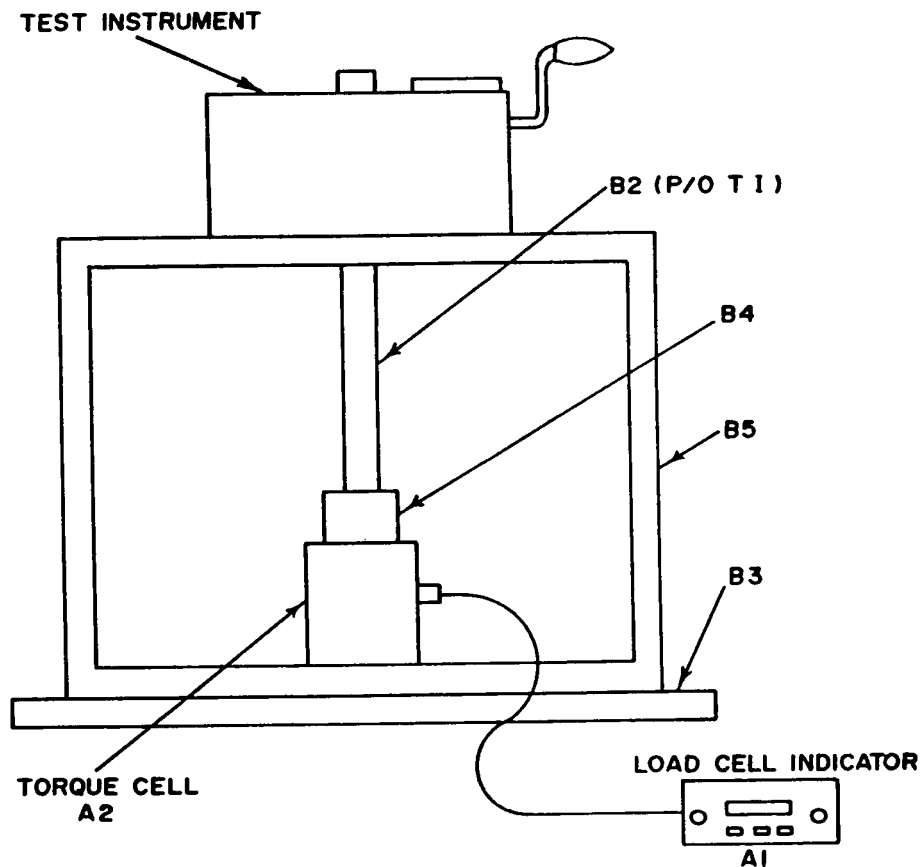

Figure 1. Torque - equipment setup.
- d. Assemble equipment as shown in figure 1.